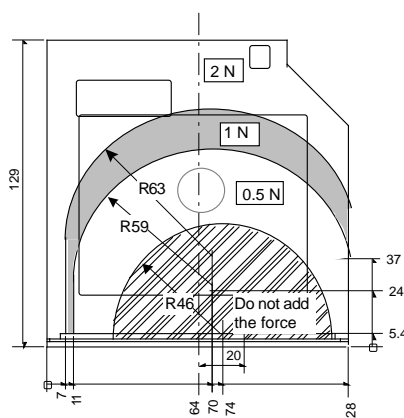

Figure 2 Restricted force range applied for the top cover
- (3) Care should be especially paid for the heat effect. Keep the air ventilation and isolate from heat of the environmental condition. Then, install the equipment where the environmental temperature at the bottom center of cabinet does not exceed 50 °C.
- (4) Do not add the force beyond the indicated force on the top and bottom cover of the equipment. (The restricted force range for the top cover is shown in the Figure 2.)